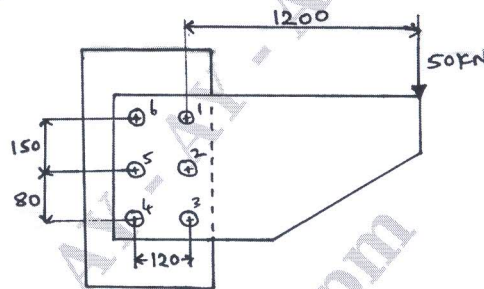

Fig. Q7(b)
- b. Determine the diameter of rivet for the joint shown in Fig.Q7(b). The allowable stress in the rivet is 100 N/mm2. (08 Marks)